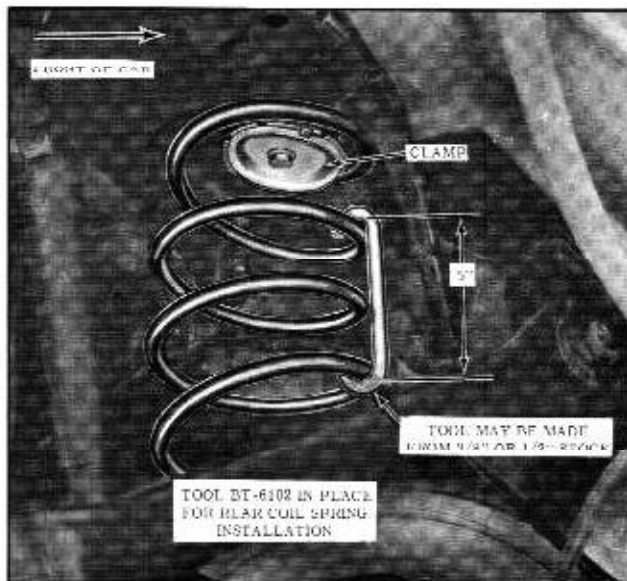

Fig. 5-9 Coil Spring Installation
4. Install Spring Holding Tool BT 6102 at front of spring. (Fig. 5-9)